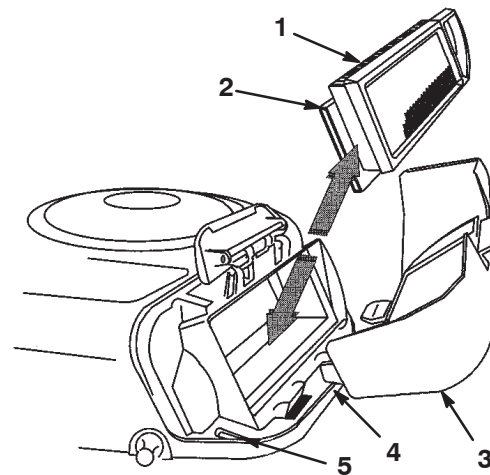

Figure 19
5. Carefully slide the paper element and foam element from the blower housing (Fig. 19).
2. Align the tabs on the air cleaner cover with the slots of the blower housing (Fig. 19). Hook the handle onto the cover and press down on the handle to lock the cover in place.